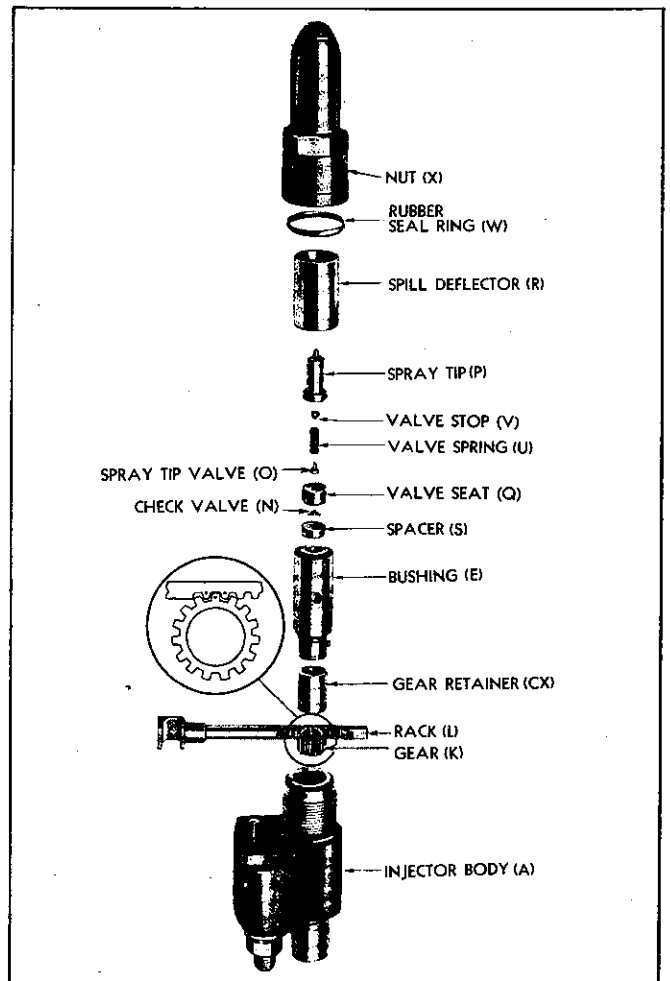

Fig. 15—Injector Rack, Gear, and Spray Tip Details.
- (b) Place a spring (Y) above each filter, a copper gasket (Z) up against the shoulder of each filter cap (B), lubricate the threads and tighten the filter cap in place in the injector body.
2. **Rack and Gear Assembly**—Refer to Fig. 15 and note that two of the teeth of the injector rack (L) have a drill spot mark; also one tooth of the mating gear (K) is similarly marked. When the rack and gear are assembled, the marked tooth of the gear engages between the two marked teeth on the rack. This relation of rack and gear must be maintained for proper timing of the injectors.
- (a) Hold the injector body, bottom end up, and slide the rack (L) through the 1/4 inch (approximately) hole in the body so the two marked teeth can be observed when looking from the bottom into the bore for the gear.
- (c) Holding the rack in position so the teeth marks show, slide the gear (K) into proper engagement with the rack.
- (d) Slide gear retainer (CX) down on top of gear and plunger bushing (E) down onto retainer with locating pin in bushing guided into slot of injector body.
- (e) Slide the spill deflector (R) down into nut (X), and the rubber seal ring (W) on the injector body.
3. **Spray Tip Assembly**—Refer to Fig. 15 before assembling the following parts.
- (a) Place spacer (S) flat down on a clean piece of paper. Place check valve (N) on spacer and spray tip valve seat (Q), recessed side